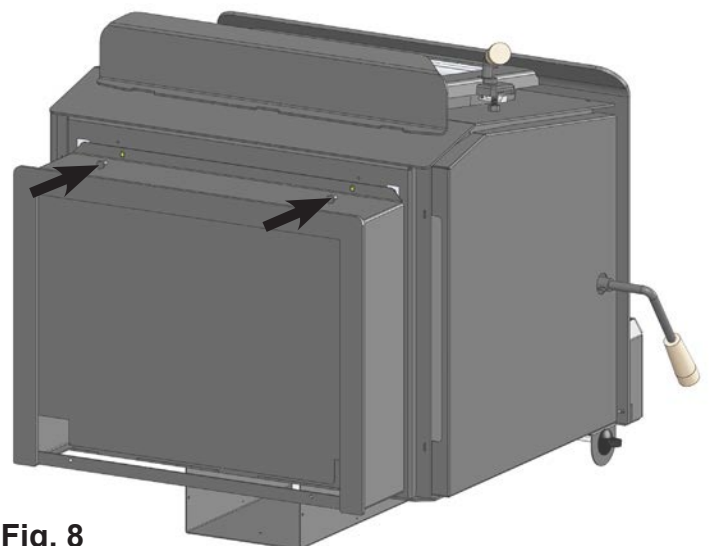

Fig. 8
4. There are two 1/4-20 x 1/2" bolts supplied with the classic base kit, tighten until snug. **(Fig. 8)**
2. Remove "ASH CHANNEL SEAL" by unscrewing the 1/4" nut. (Fig. 8)